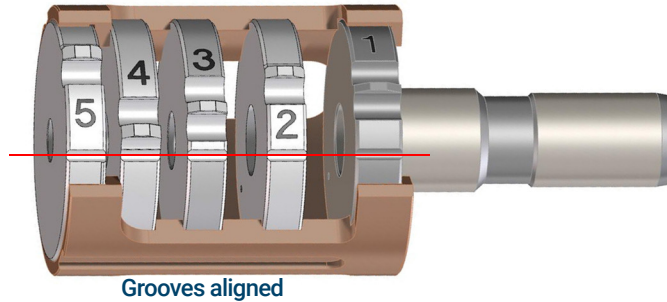

Figure 59 Assembled EI HES lens stack
- 1 Assemble the five lenses inside the lens insulator. (See Figure 59 on page 188.) The lens number is engraved into the outer circumference of each lens.